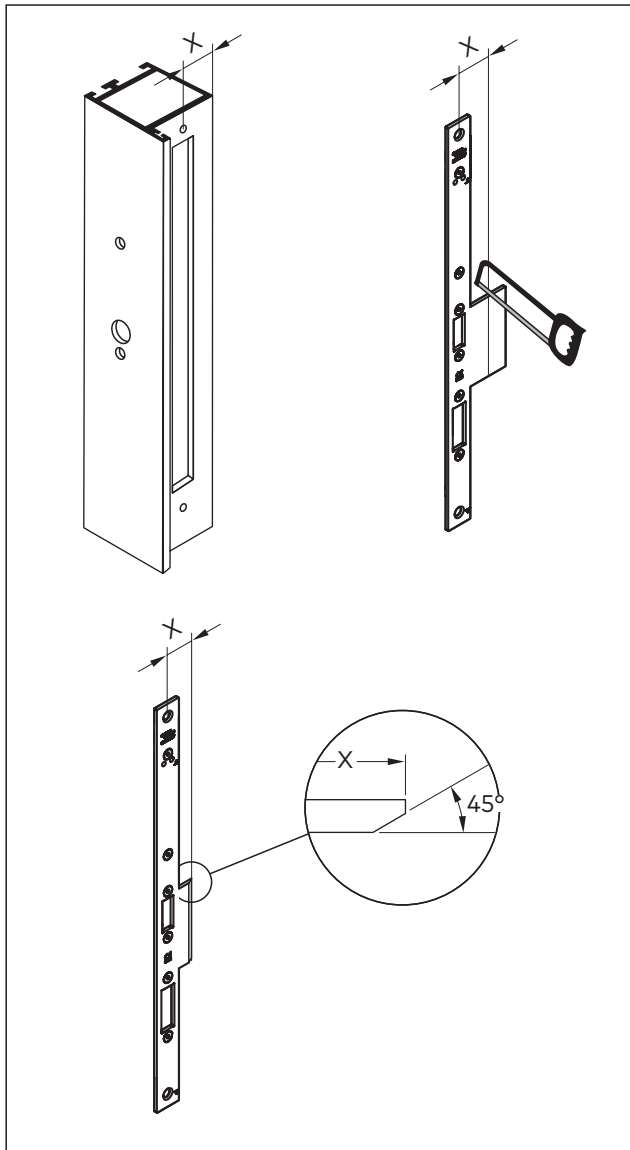

Fig. 30 Dimensions of the adjustments
1. Adjust the forend (Fig. 30).